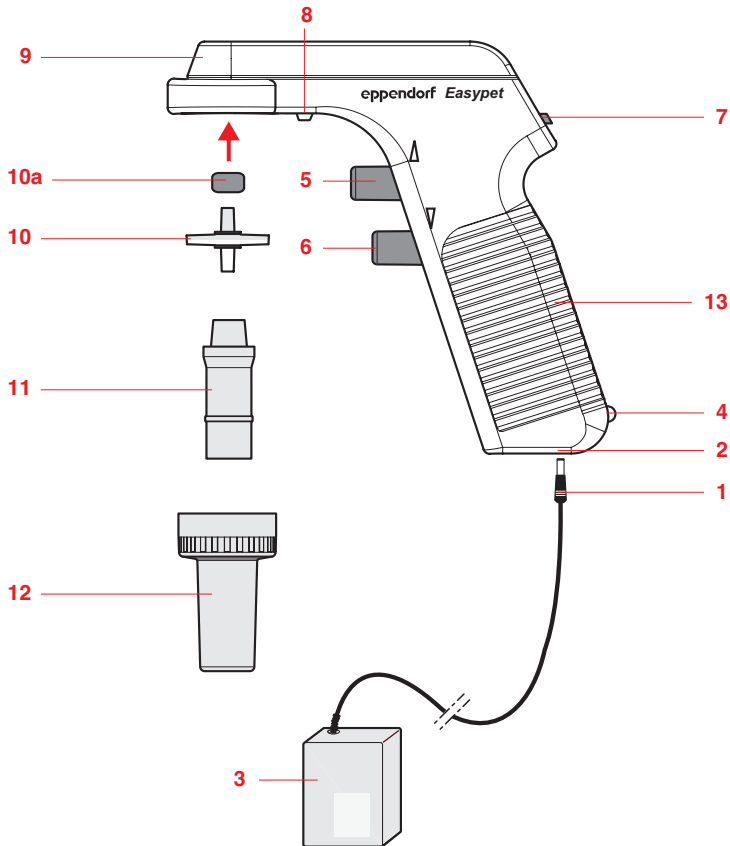

Fig. 1
- Connect the plug of the transformer (Fig. 1 – 1) to the electrical connection on the grip (Fig. 1 – 2).
- Connect the transformer (Fig. 1 – 3) to the main power supply. The red charge control lamp (Fig. 1 – 4) will turn off.
When the pump is used to fill and empty the pipet, the aspirating- or dispensing speed can be selected using the pump speed control (Fig. 1 – 7) (I = slow, IIIII = fast).
- Press the aspirating button \triangle (Fig. 1 – 5). Fill the pipet to just above the desired mark.
- Press the dispensing button ∇ (Fig. 1 – 6) slowly until the meniscus is exactly level with the desired mark.
- The dispensing speed can be set using the pump speed control (Fig. 1 – 7).
Slide open the lid of the battery compartment in the grip (Fig. 1 – 13) and remove the batteries. Insert new batteries. Orient according to marking in the battery compartment.